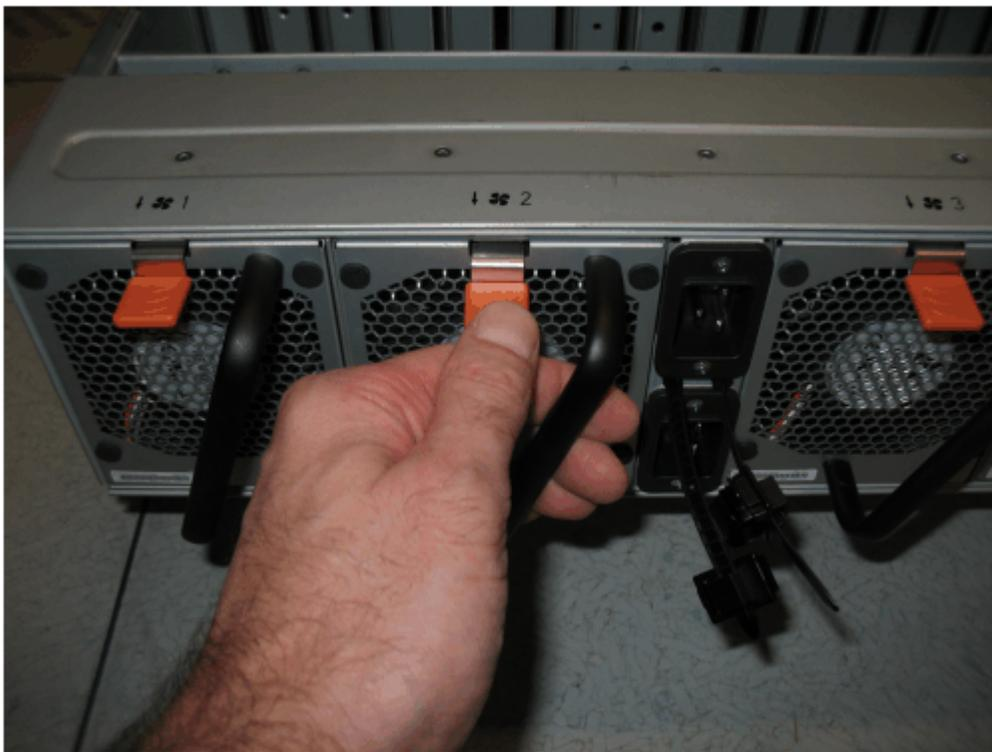

Figure 121. Fan module release tab
2. Press the release tab on the fan module, as Figure 121 on page 111 shows.